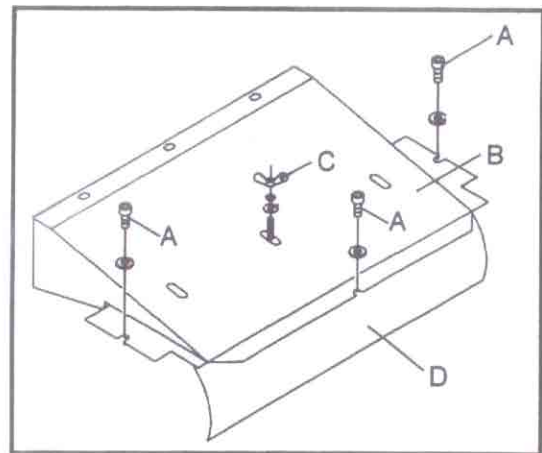

Fig. 9A
2. Remove screws (A, Fig. 9A) securing the dust hood.
3. Remove dust hood (B, Fig. 9A) and dust chute.
4. Loosen three wing nuts (C, Fig. 9A) and slide the curved infeed chip deflector (D, Fig. 9A) out of the way.